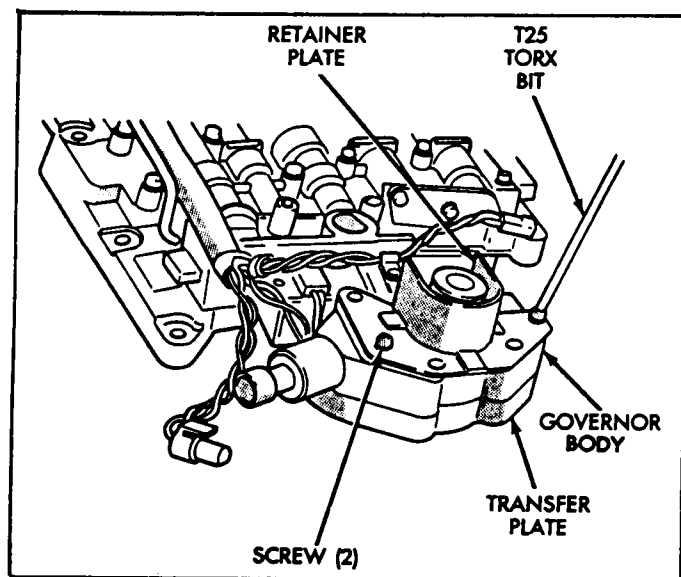

Figure 122
61. Align the screw holes in the governor body, gasket, and transfer plate, and install the two retaining screws, as shown in Figure 122.
62. Torque the two governor body screws to 35 in.lbs. (See Figure 122).